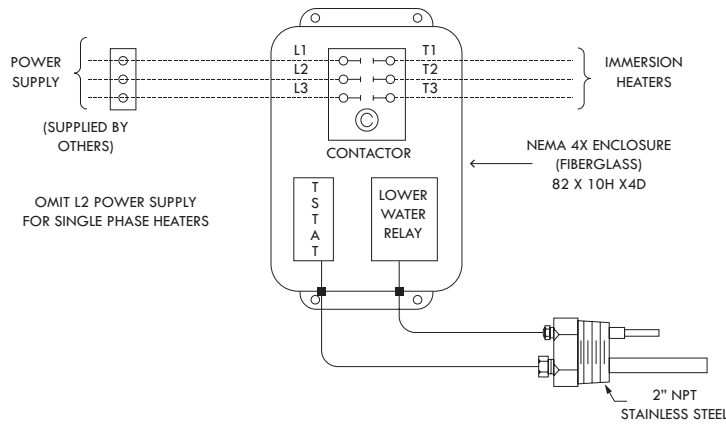

Figure A-55: Basin heater control panel diagram
- Using suitable wire connect heater to panel on “T” terminals, located on right side of contactor in panel (See Figure A-55).